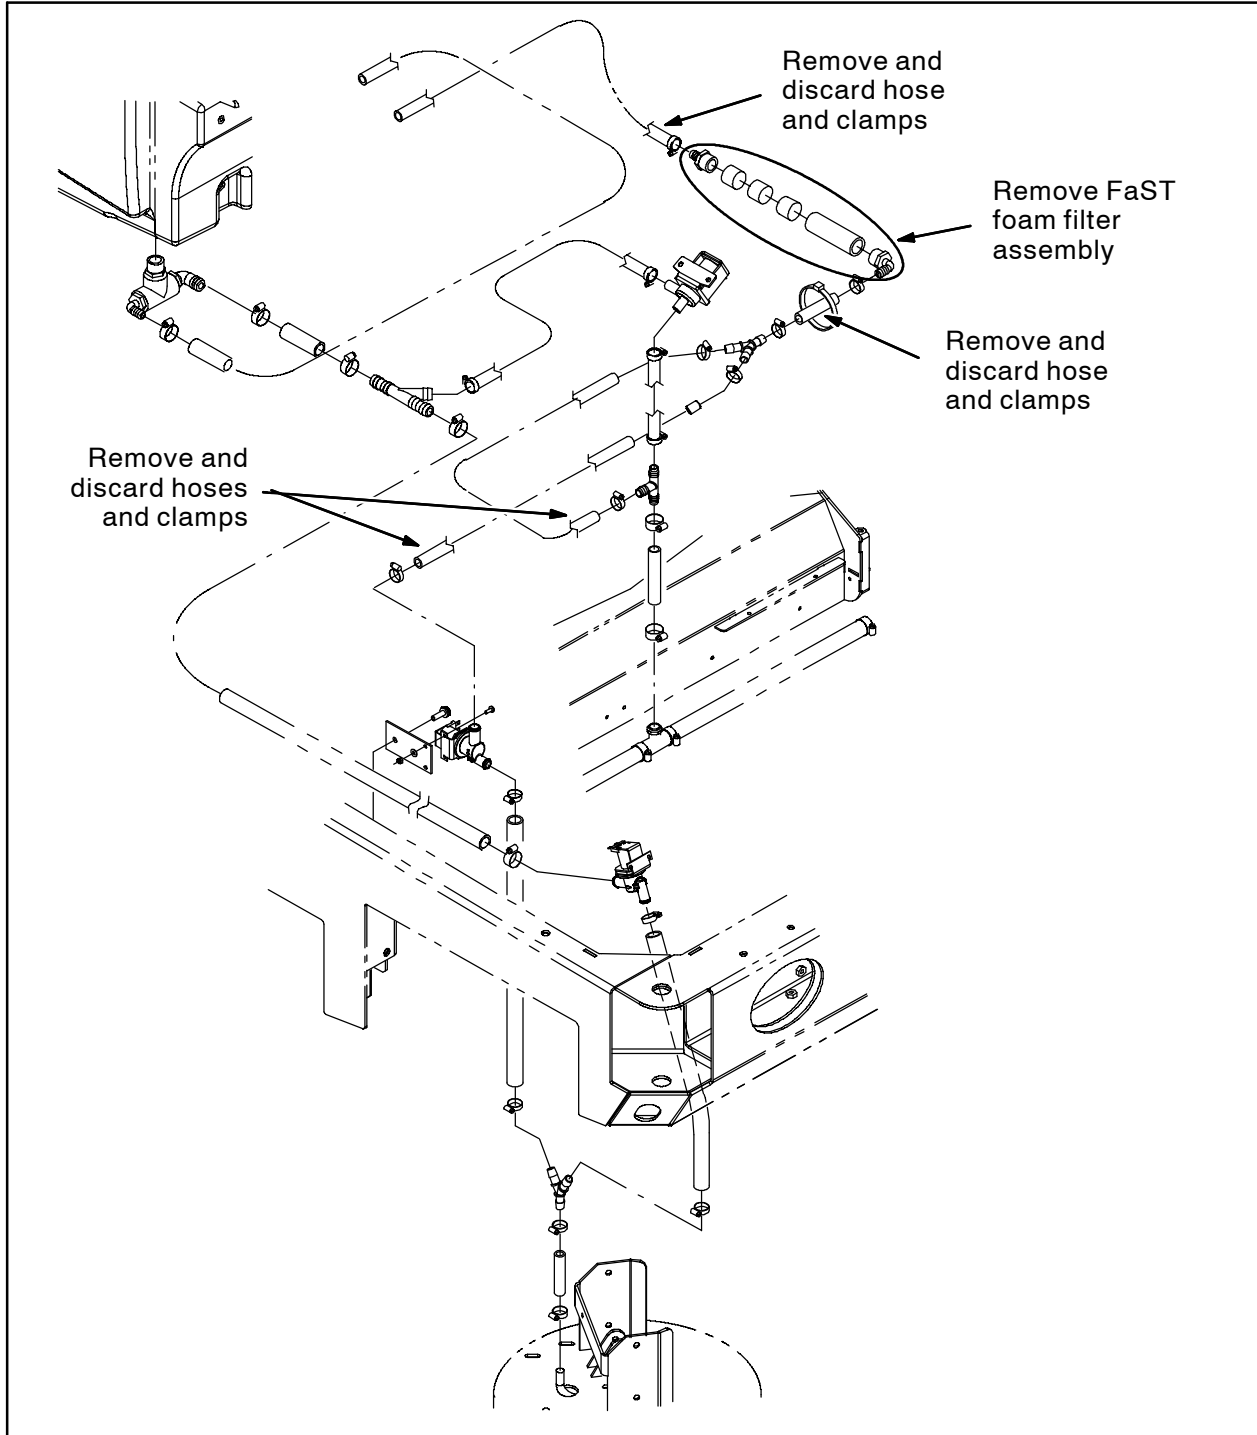

FIG. 1
1. Disconnect the hoses and wire harness from the FaST assembly and remove the entire FaST assembly from the machine. Discard the FaST assembly and removed hardware. Refer to Fig. 1.
2. Remove the hoses and components labeled in Fig. 1 and discard the hoses and hose clamps.